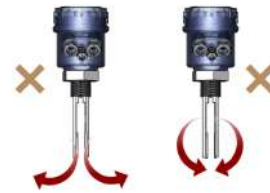

Figure 8: Tines Handling
- The tines should not be bent nor should their dimensions be altered. Deforming the shape of the tines may interfere with the fork's operating frequency. Please see Figure 8.